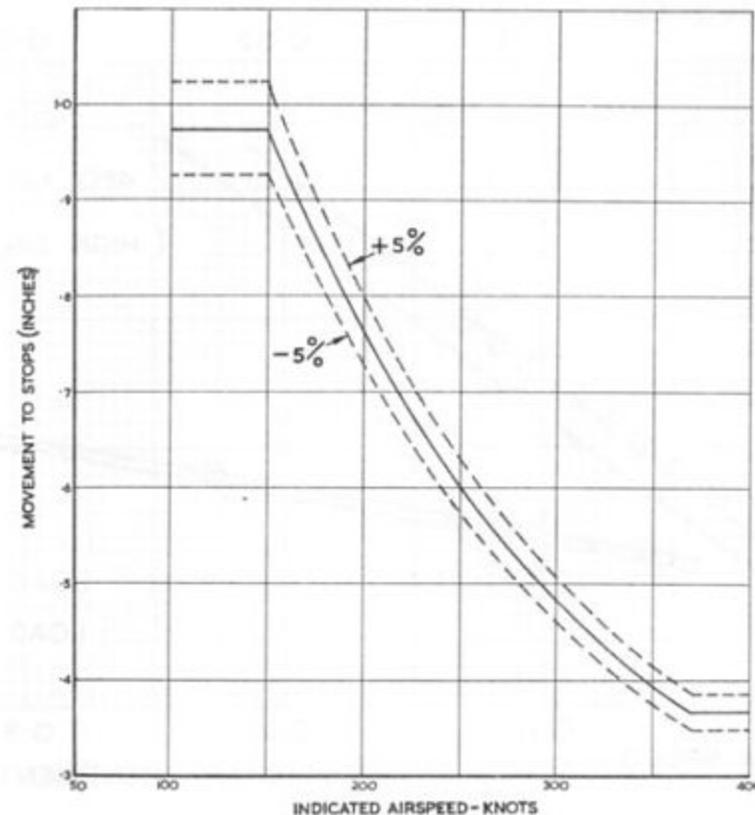

Fig.4 Aileron A.F.U. Airspeed/stop movement limits
(5) The object of the calibration check is to determine the airspeed/available movement characteristics of the feel unit. The upper and lower limits of movement are shown on calibration sheet fig.4. To check calibration:-
end of the balance arm to take up movement between the stops, and record the input shaft movement on calibration sheet fig.4. Repeat this procedure at 25 knot intervals throughout the normal speed range.